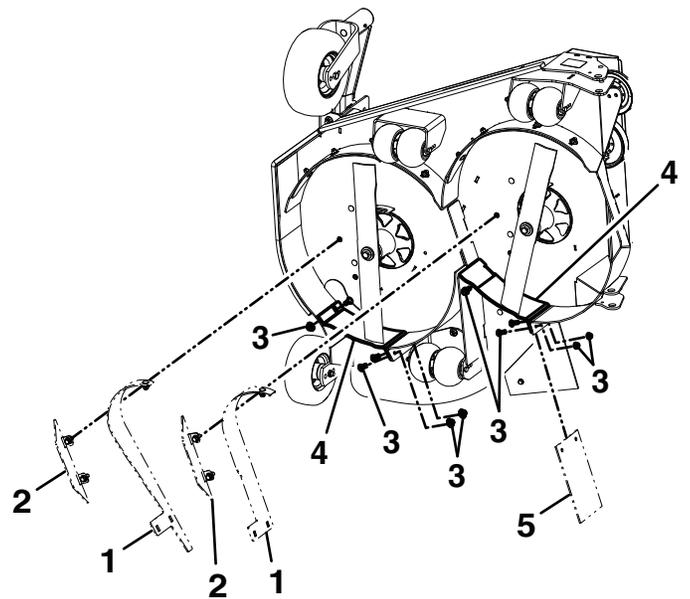

**Figure 3**
4. Remove the clevis pin and hairpin from the storage location and secure each wing in the up position as shown Figure 3.